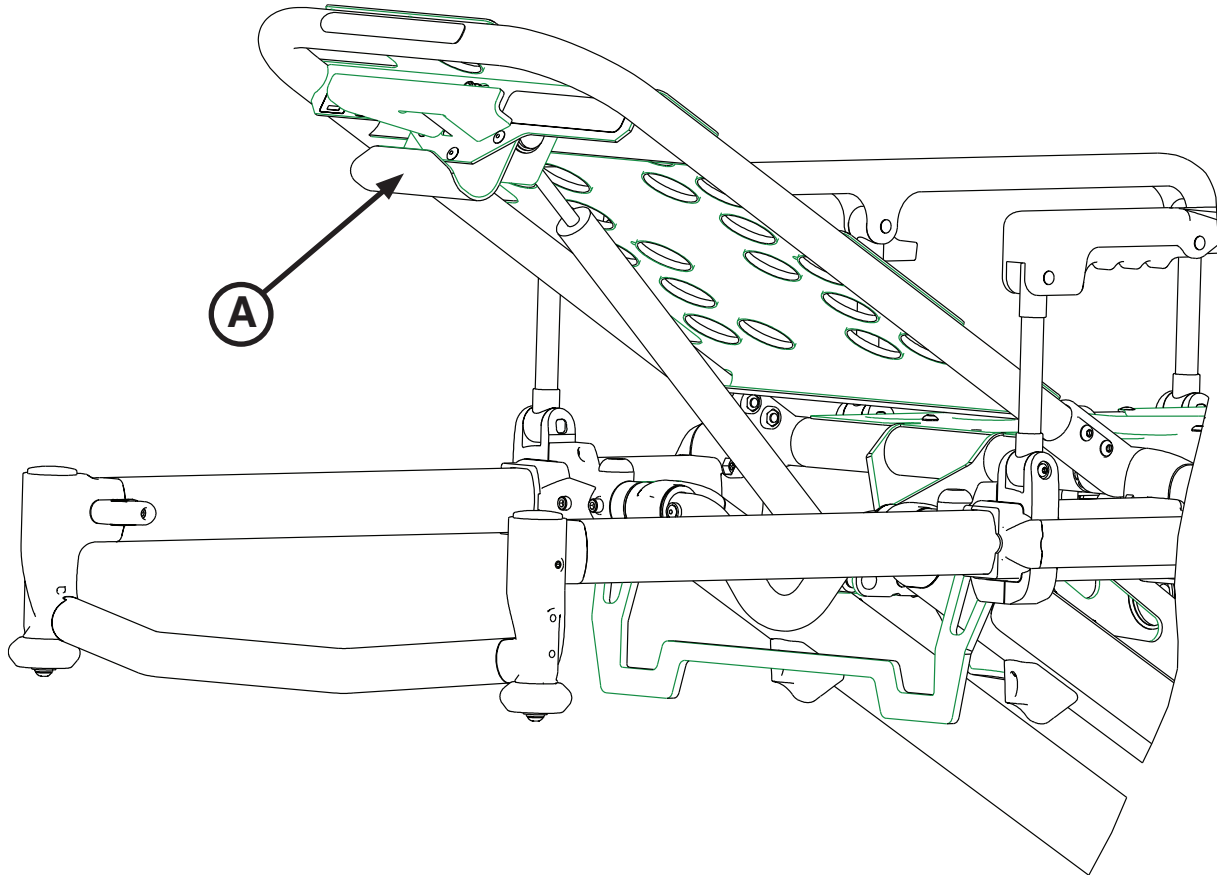

Figure 31: Equipment Hook
Use the equipment hook (A) as shown in Figure 31) to hang additional accessories or equipment, such as defibrillators or monitors.